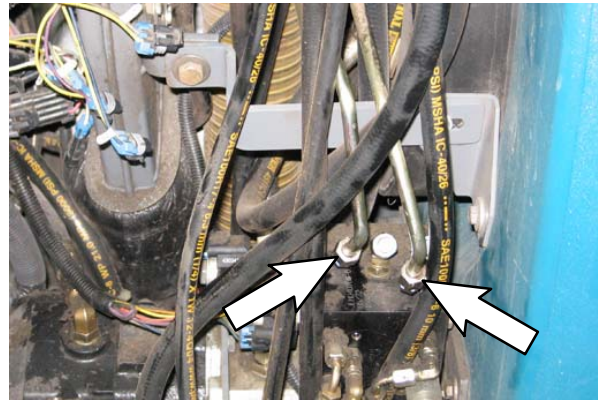

FIG. 3
1. **M20 machines serial numbers 000000 - 002699 only:** Disconnect both steel tubes from the lower valve. (Fig. 3)